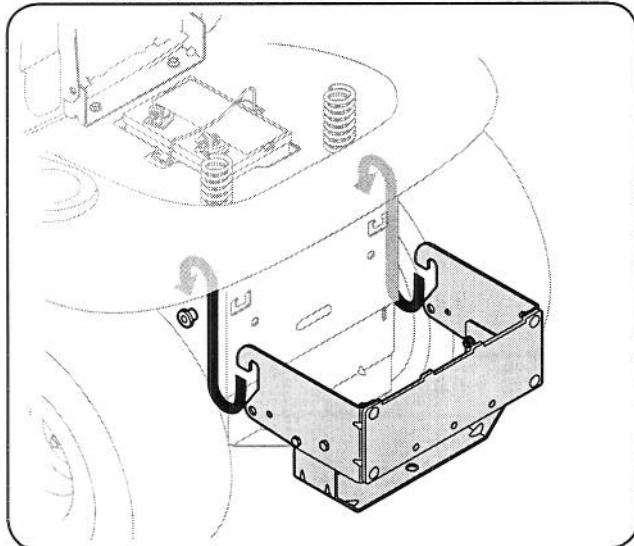

Figure 4-7
1. Place the hooked ends of the bagger mounting assembly over the shoulder bolts, as in Fig. 4-7, on the tractor and line up the hitch support hole on the mounting assembly with the hole on the tractor's hitch.